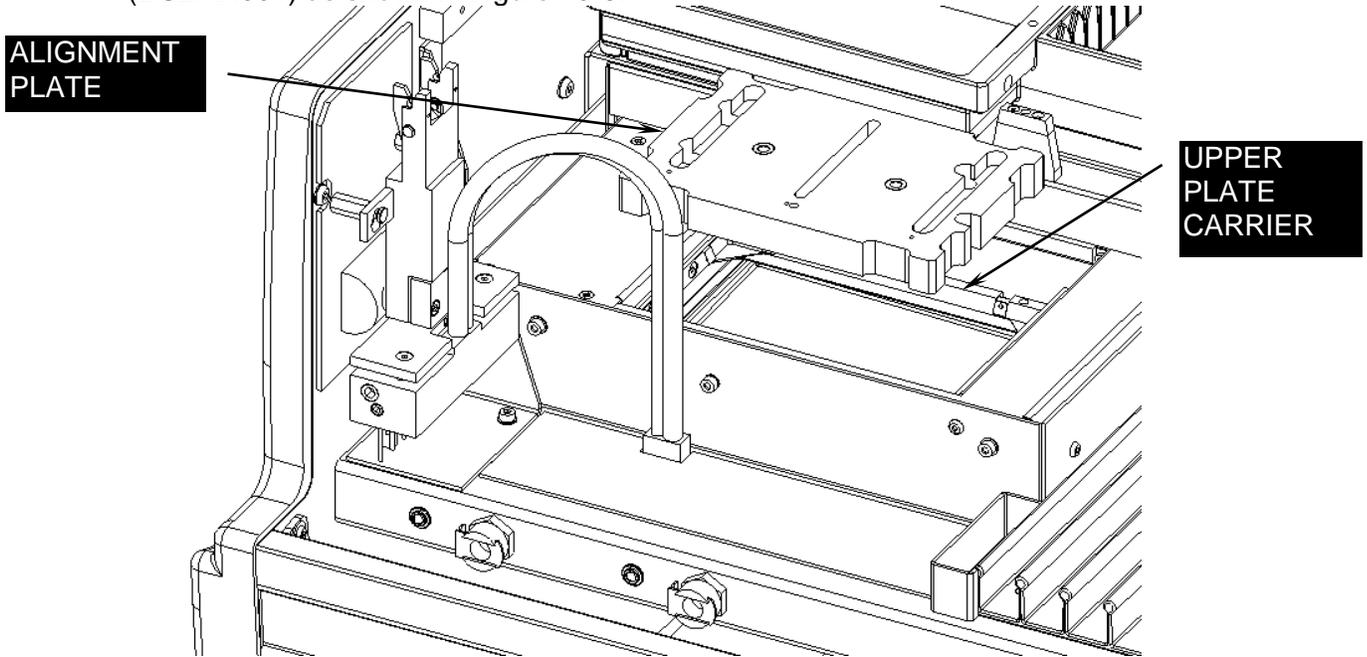

Figure 13-6: Sliding the Wash Head
1. Slide the Upper Plate Carrier in the Reader to the front and fit the Alignment Plate (DS2FIX001) as shown in Figure 13-6.